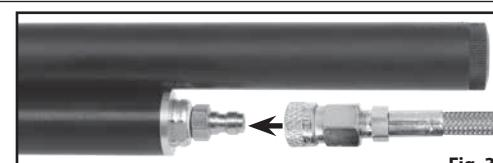

Fig. 3
4. Attach the quick disconnect fitting from your filling equipment to the fill nipple on the airgun (See Fig. 3).